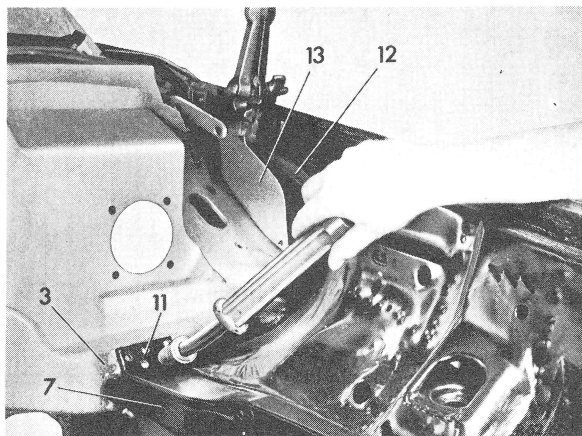

Fig. 6
18 Connect upper flange (11) of side member (7) to front wall reinforcement (3) by plug welding (Fig. 6).
20 Connect wheel housing sheet metal (12) to front wall column inside panel (13) by bead welding (string bead) (Fig. 6).